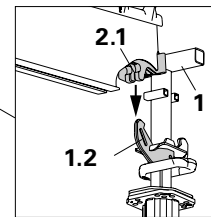

Fig. A4.02a
5. Insert Main Beam SLT 225 (2) into the beam support of the Prophead and Drophead. The main beam connection (2.1) must be mounted in the middle of the beam support (1.2) of the SKYDECK heads. (Fig. A4.02a / A4.02b / A4.02c)
6. Secure Main Beam SLT 225 (2) with Wall Holder SWH-2 (8).
8. Insert Main Beam SLT 225 (2) in the beam support. (Fig. A4.02a / A4.02b / A4.02c / A4.04)